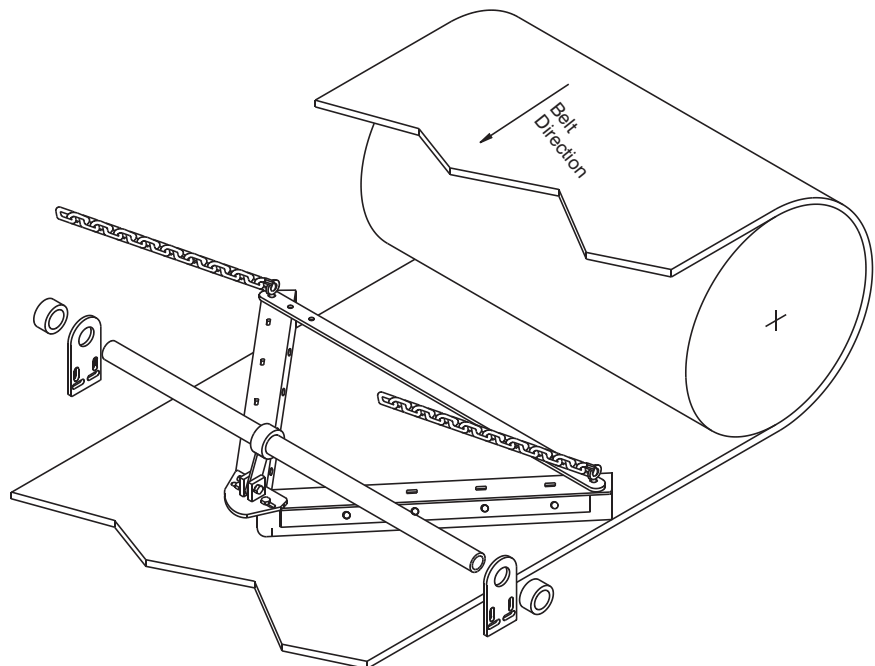

Fig 1.
Step 2a. Assemble the plow into position in the conveyor frame as shown in Fig. 1. The plow is tensioned into the belt by gravity. When the chain is roughly in the 45° angle and the connecting rod is vertical it is then time to change the rubber on the plow. The collars on the mounting tube may be located inside or outside of the mounting plate. Their only purpose is to prohibit the shaft from lateral movement.